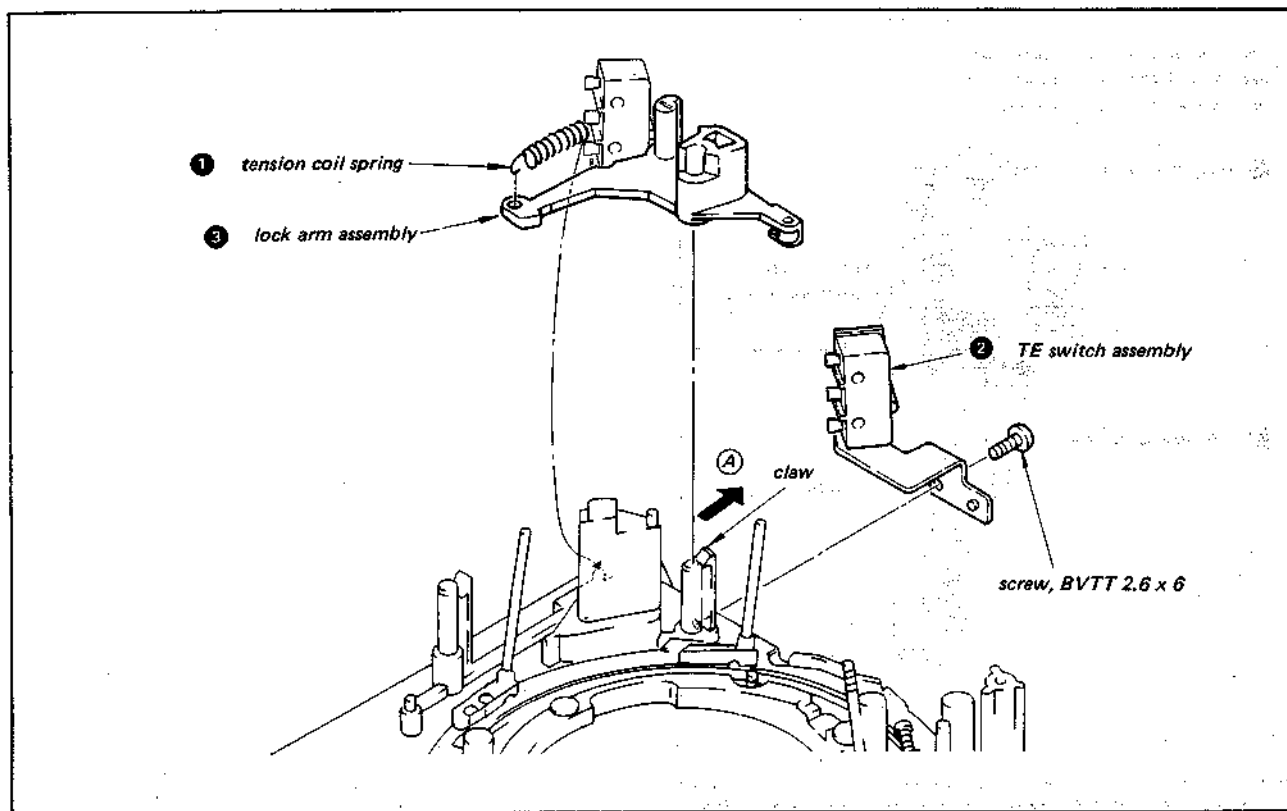
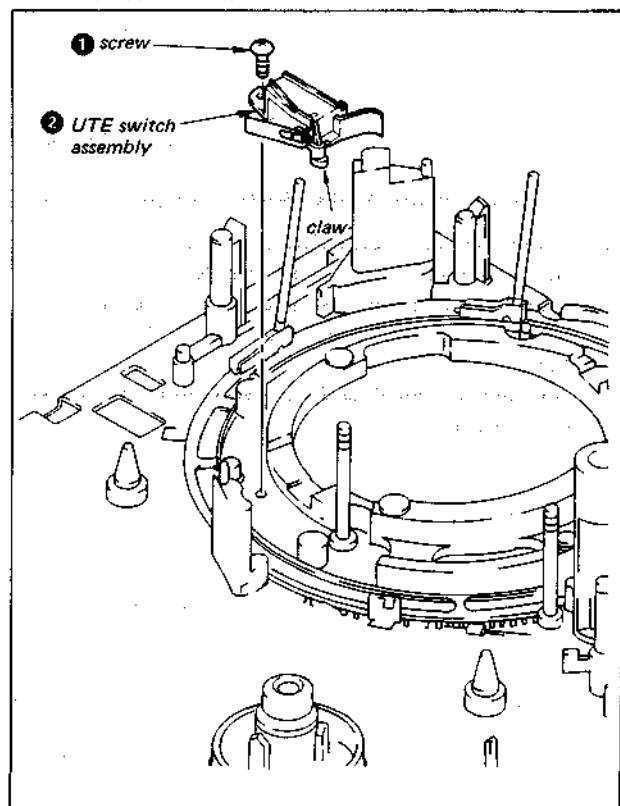

Fig. 3-26. Removal of the TE switch assembly and lock arm assembly
Fig. 3-30. Removal of the UTE switch
- ① Remove the tension coil spring from the lock arm assembly (refer to Fig. 3-26 in section 3-11-1).
- ② Turn the stop washer and remove the ring roller (B).
- ③ Remove the group of parts in the unthreading end switch (for instructions on assembly and disassembly, refer to section 3-11-2 and Fig. 3-30).
- ④ Remove the screw, then remove the ring roller adjustment plate.
- ⑤ Remove the S threading ring.
- ① Remove the screw, as shown in Fig. 3-30.
- ② Remove the claw of the switch from the chassis, and then remove the main body of the switch while holding the actuator in the ON position.